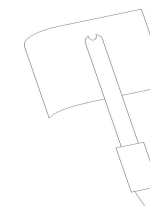
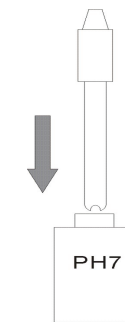

FIG. 1-3
FIG. 1-4
- 4.4 Wipe the pH electrode and dip it into the pH7 buffer solution. FIG.1-3. FIG.1-4.